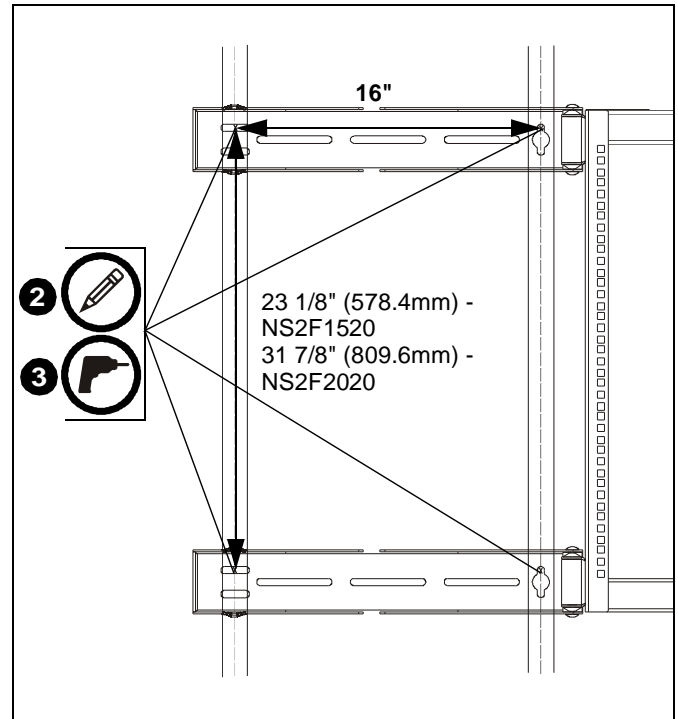

Figure 2
2. Place NS2SK swing arms (A) over studs and mark hole locations. (See Figure 2)
**NOTE:** Holes must be drilled 23 1/8" (578.4mm) apart vertically if mounting an NS2F1520 or 31 7/8" (809.6mm) apart vertically if mounting an NSF2020. (See Figure 2)
3. Drill four 7/32" (5.5mm) diameter holes to a depth of 3 1/2" (89mm) at marked locations. (See Figure 2)